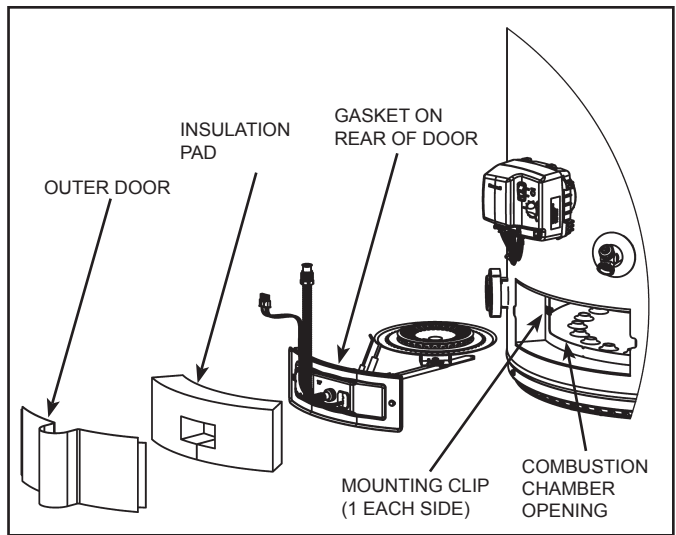

Figure 9. Burner Chamber Compartment Doors
9. Remove inner door/manifold/burner assembly by grasping the manifold and pull back slowly. Rotating it to the left to clear the igniter and flame sensor. Care should be taken when inner door and burner assembly passes through jacket opening that it does not damage any of the electrical wiring. See *Figure 9* (page 10).
**Note:** If the burner door gasket is worn or damaged it needs to be replaced. See *Replacing The Door Gasket*. (page 3). See *Figure 9* (page 10).
**Note:** If the burner door gasket is worn or damaged it needs to be replaced. See **Replacing The Door Gasket.** (page 3). See also **Figure 9** (page 8).
**Note:** If the burner door gasket is worn or damaged it needs to be replaced. See *Figure 9* (page 10). See also *Replacing The Door Gasket*. (page 3).